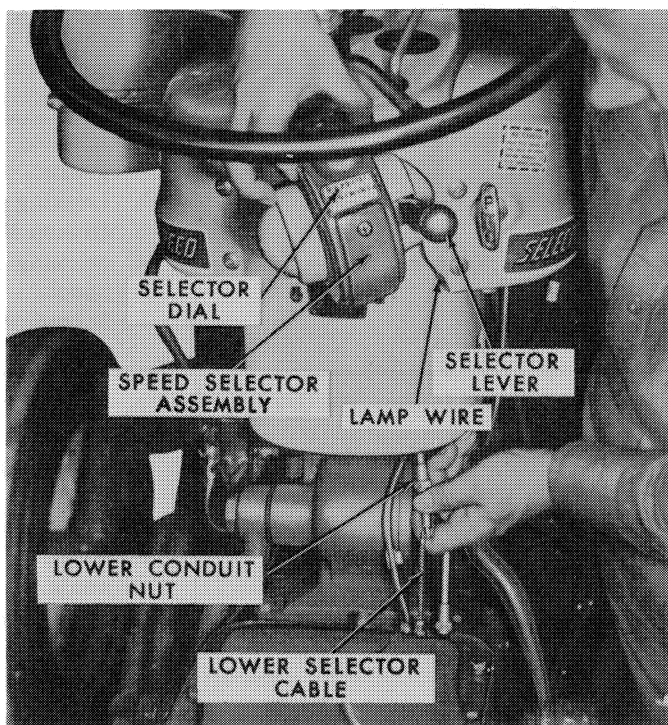

Figure 31
2. Place the selector lever in park (P) and loosen the conduit nut at the transmission cover.
3. Move the selector lever to the tenth speed position, allowing the complete assembly to move away from the transmission cover, as shown in Figure 31.